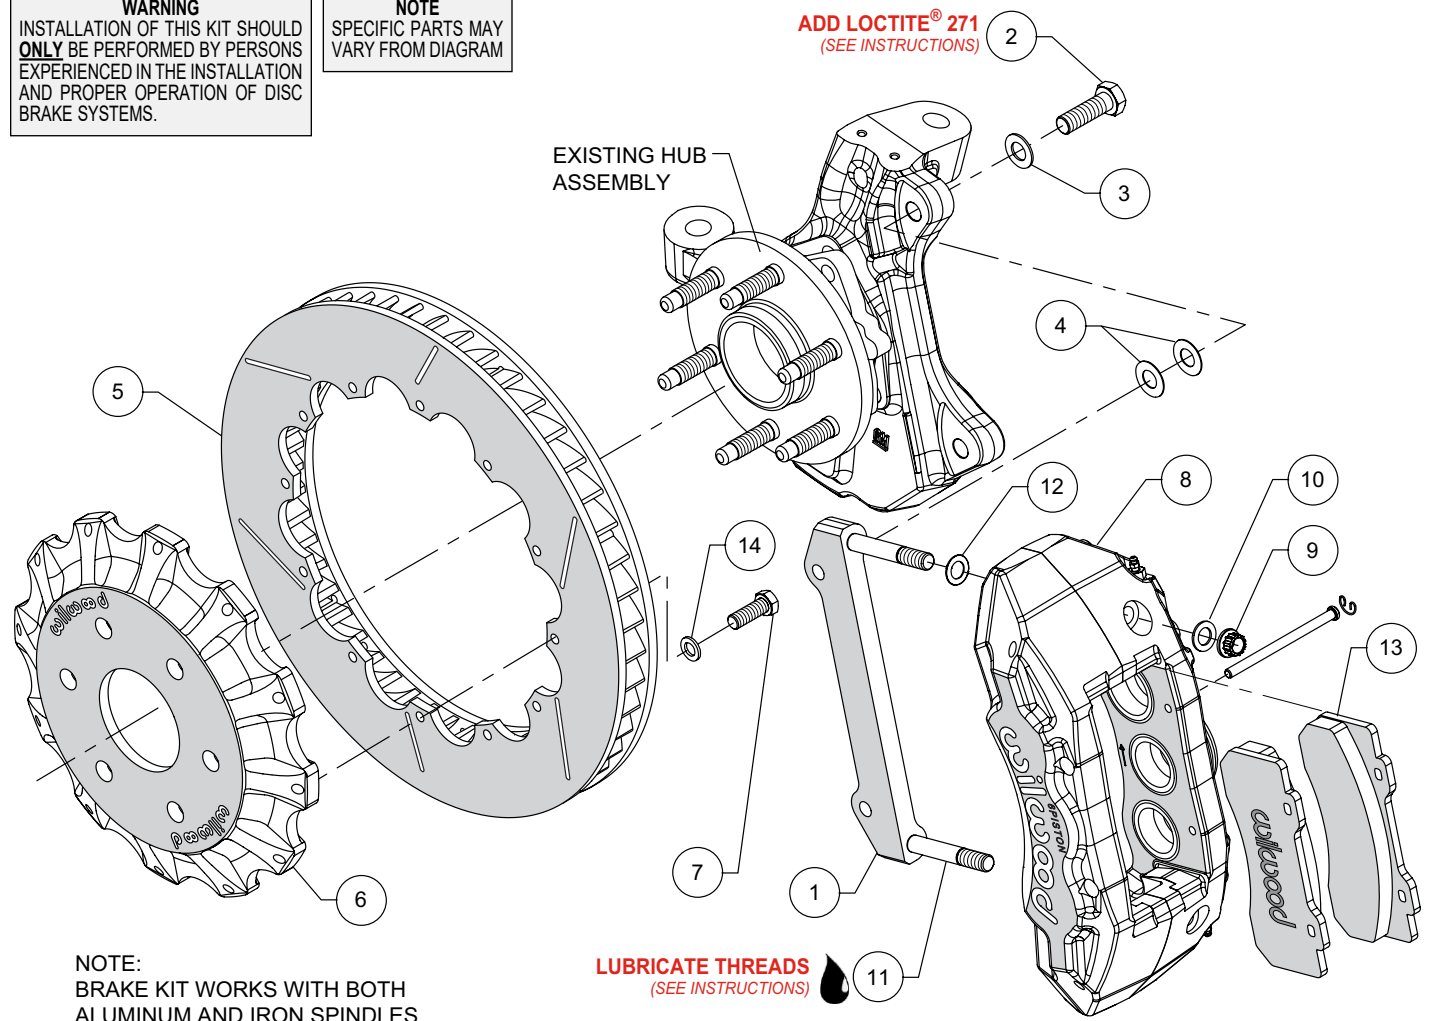
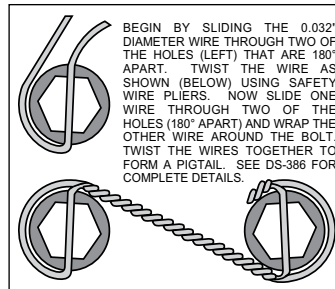

Figure 1. Typical Installation Configuration
Figure 3. Safety Wire Diagram
NOTE: Numbers in parenthesis refer to the parts list and Figure 1 on the preceding pages.
- The caliper mount bracket (1) should initially be installed with clean, dry threads on the mounting bolts. Orient the bracket as shown in Figure 1 and Photo 1, and install using bolts (2) and washers (3). Initially place two .029 thick shims (4) on each bolt between the bracket and upright, Figure 1. Temporarily tighten the mounting bolts. **NOTE:** The bracket must fit squarely against the mount bosses on the upright. Inspect for interference from casting irregularities, machining ridges, burrs, etc. Later, after the caliper alignment has been checked, the mount bolts will be secured using red *Loctite*® 271.
- Orient the rotor (5) and the hat (6) as shown in Figure 1 and Photo 2. Attach rotor to hat using bolts (7) and washers (14). Apply red *Loctite*® 271 to the bolt threads and torque to 25 ft-lbs using a criss-cross pattern. For an added measure of security, the bolts may be safety wired using standard 0.032 inch diameter stainless steel safety wire as shown in Figure 3. Please refer to Wilwood's data sheet DS-386 (available at www.wilwood.com/Pdf/DataSheets/ds386.pdf) for complete safety wire installation instructions.
- **NOTE:** This kit contains distinct right and left hand calipers that must be mounted in a specific direction, as described below. Lubricate the caliper mounting studs (11) with lightweight oil. Initially place one .032" thick shim (12) on each stud as shown in Figure 1 and Photo 3. Mount the caliper (8) onto the bracket (1) using lock nuts (9) and washers (10), Figure 1. Ensure that the caliper is mounted so that the largest pistons are at the rotor exit end of the caliper, in relation to the direction of rotor rotation. Temporarily tighten the lock nuts and view the rotor through the top opening of the caliper. The rotor should be centered in the caliper, Photo 4. If not, adjust by adding or subtracting shims (4) between the bracket and the upright. Always use the same amount of shims on each of the two mounting bolts. Once the caliper alignment is correct, remove the bracket mounting bolts (2) one at a time, apply red *Loctite*® 271 to the threads, and torque to 77 ft-lb.